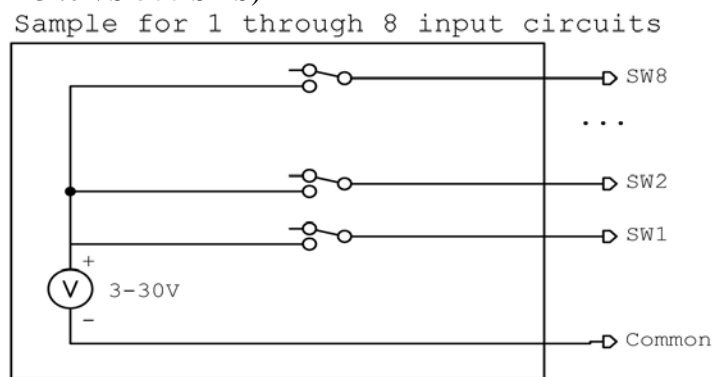

Fig. 1
- Figure 1 shows how the “switches” must be connected (SW1 - SW8)